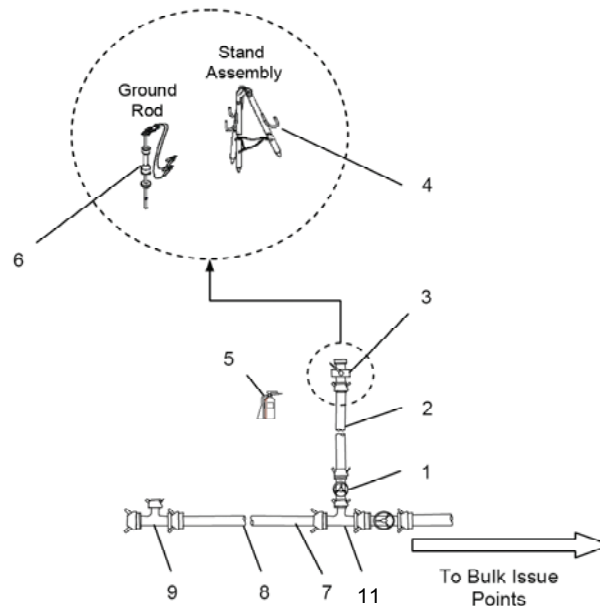
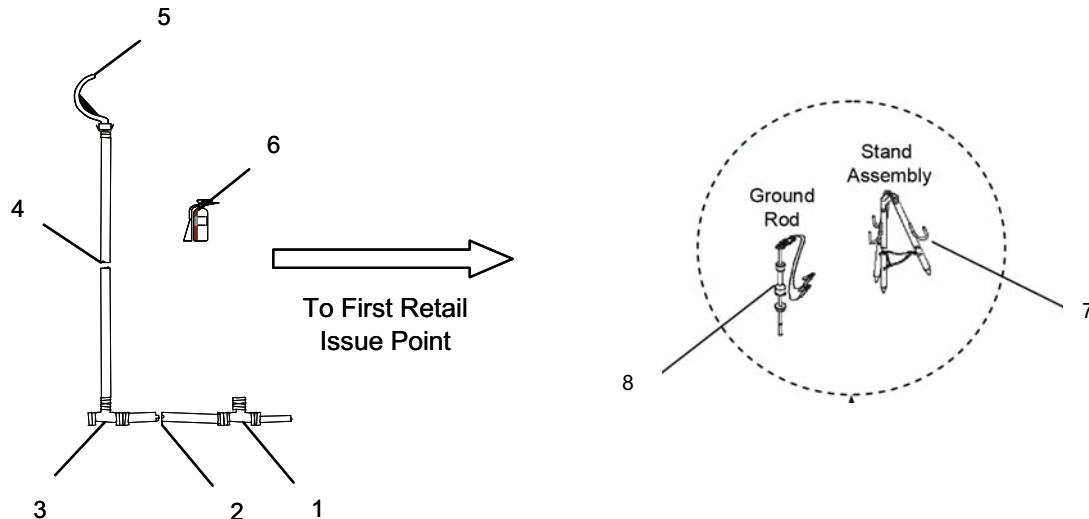

Figure 20. Installation of Bulk Issue Points Without D-1 Nozzle.
Figure 22. Installation of Second Retail Issue Point.
2. Connect the gate valve (Figure 20, Item 1) to the 6M x 6F x 4M tee assembly (Figure 20, Item 11).
4. Connect the section of 4 in. x 25 ft. discharge hose (Figure 20, Item 2) to 4 in. gate valve (Figure 20, Item 1).
6. Connect the 4 x 4 in. butterfly valve (Figure 22, Item 3) to the sections of 4 in. x 25 ft. discharge hose (Figure 20, Item 2).
10. Position the stand assembly (Figure 20, Item 4) and fire extinguisher (Figure 20, Item 5) adjacent to the butterfly valve (Figure 20, Item 3).
11. Install the ground rod (Figure 20, Item 6) adjacent to the stand assembly (Figure 20, Item 4) per FM 10-67-1.
14. Connect the section of 6 in. x 25 ft. discharge hose (Figure 20, Item 7) to the 6M x 6F x 4M tee assembly (Figure 20, Item 11).
15. Connect the section of 6 in. x 25 ft. discharge hose with tee assembly (Figure 20, Items 7 and 11) to the section of 6 in. x 50 ft. discharge hose (Figure 20, Item 8).
17. Connect the 6M x 6F x 4M tee assembly (Figure 20, Item 9) to the end of 6 in. x 50 ft. discharge hose (Figure 20, Item 8).
19. Place one fuel spill control kit (Figure 20, Item 10) near 6 in. x 50 ft. discharge hoses (Figure 20, Item 8).
23. Connect the sections of 2 in. x 50 ft. discharge hose (Figure 22, Item 2) to the 2 in. tee assembly (Figure 22, Item 1).
25. Connect the 2 in. tee assembly (Figure 22, Item 3) to the section of 2 in. x 50 ft. discharge hose (Figure 22, Item 2).
27. Connect the section of 2 in. x 50 ft. discharge hose (Figure 22, Item 4) to the 2 in. tee assembly (Figure 22, Item 3).
29. Connect Closed Circuit Refueling Nozzle (Figure 22, Item 5) to the section of the 2 in. x 50 ft. discharge hose (Figure 22, Item 4).
32. Position the fire extinguisher (Figure 22, Item 6), stand assembly (Figure 22, Item 7) and ground rod assembly (Figure 22, Item 8) per FM 10-67-1 adjacent to the end of the 2 in. X 50 ft. discharge hose (Figure 22, Item 4).